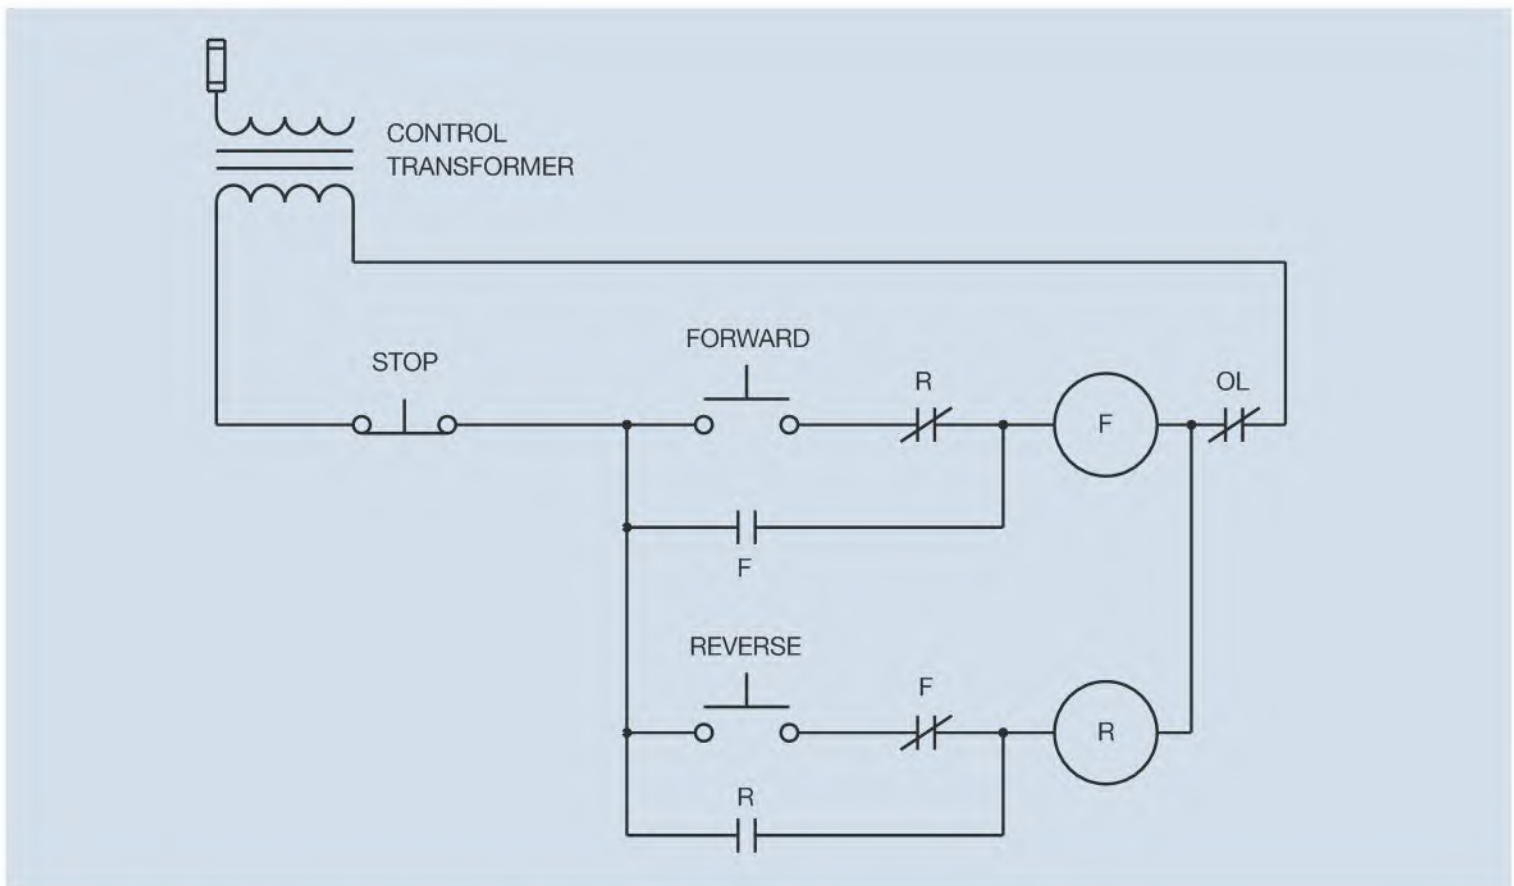

Figure 9–14 The position of the holding contacts has been changed.
6. Assume that the circuit shown in Figure 9–7 were to be connected as shown in Figure 9–14. In what way would the operation of the circuit be different, if at all?